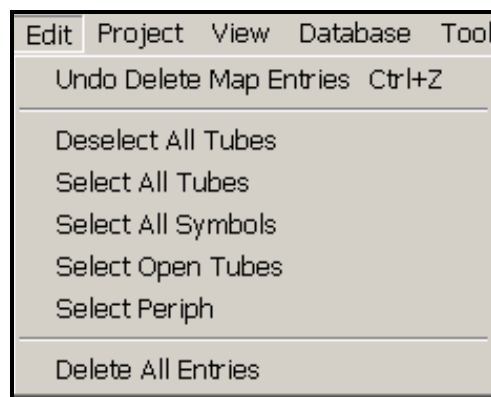

Figure 10. Edit Menu
As shown in Figure 10, the **Edit** menu contains seven (7) choices. Each item is discussed below.
- **Edit | Undo** (Ctrl+Z) will *undo* the last action performed. Continuing to select **Undo** will continue to *undo* previous actions up to the last 20 actions performed. A description of the next available action to be *undone* is displayed next to **Undo** in the **Edit** menu. For example in Figure 10, the last action was a deletion of an entry(s) on the *map* legend. If no actions are available to be *undone*, then the **Undo** selection will be grayed out.